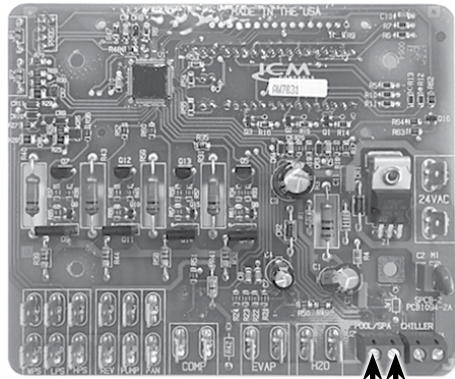

Fig. 6
4. Connect remote system with 2 wires to the **POOL/SPA** terminal on control board. **Figure 6** shows you where to connect the 2 wire remote systems to the temperature controller.